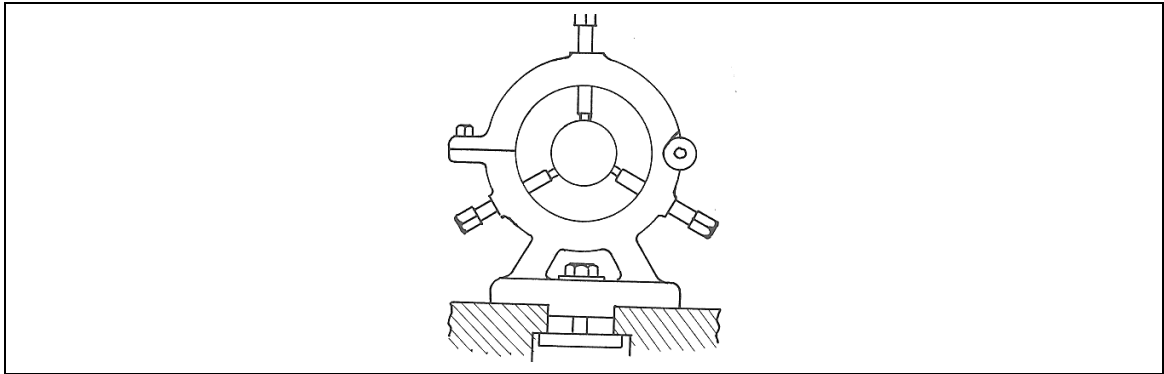

FIGURE 1.4
- D None of the above (1)
1.4 Identify the part of the centre lathe that is shown in FIGURE 1.4.